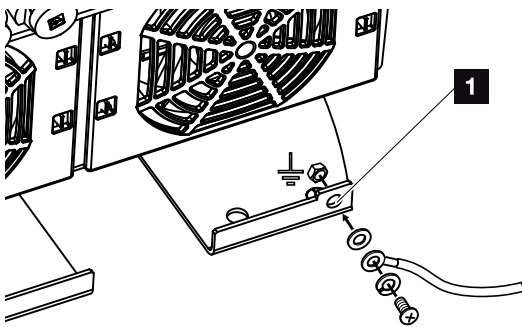

Fig. 25: Country-specific PE connection, outside
11. In countries in which a second PE connection is prescribed, connect this at the marked place on the housing (outside).  Fig. 25, It. 1